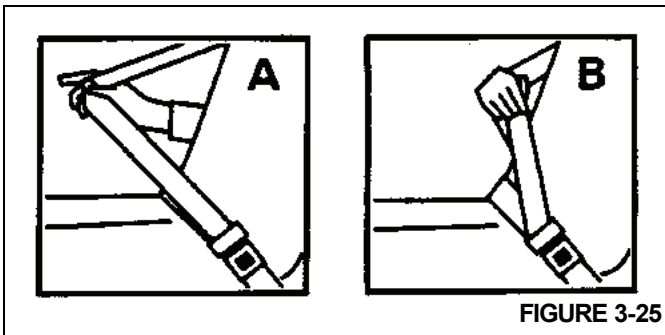

FIGURE 3-25
- a. Pull the shoulder belt out (A) at least 130 mm (5 in) so that when it is let go, it returns to your chest (Figure 3-25).
- b. Then pull down on the shoulder belt (B) the least amount needed to ease pressure but no more than 25 mm (1 inch) and let go.